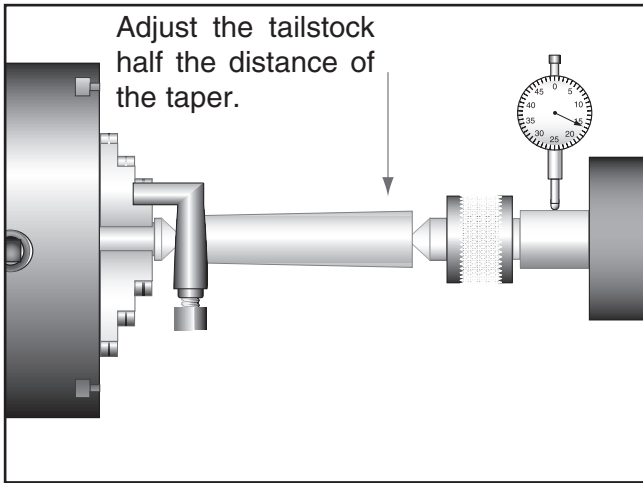
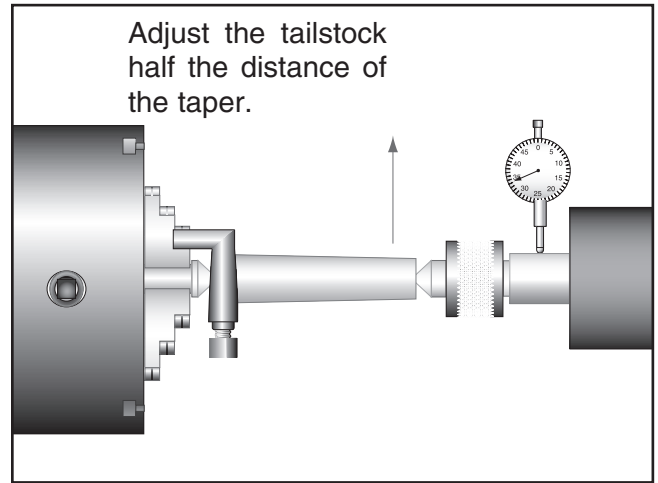

Figure 41. Adjusting for headstock end taper.
Figure 42. Adjusting for tailstock end taper.
6. Measure the workpiece with a micrometer. If the stock is fat at the tailstock end, the tailstock needs to be moved toward the operator half the amount of the taper (**Figure 41**). If the stock is thinner at the tailstock end, the tailstock needs to be moved away from the operator by at least half the amount of the taper (**Figure 42**).